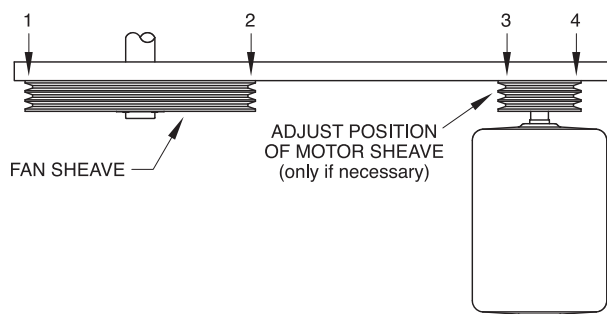

Figure 19 - Sheave Alignment Check
9. As a final check, lay a straight edge from sheave to sheave as shown below in Figure 19. There should be four-point contact. Adjust the position of the motor sheave as necessary until four-point contact is achieved.